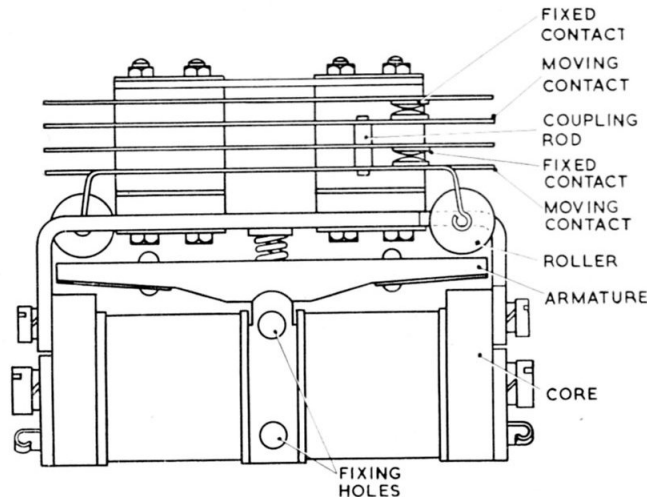

Fig. 1. Relay, Type FDN/A/380
2. This relay (*fig. 1*) incorporates two separate windings on a common core, arranged to attract one end or the other of an armature which rocks on a fulcrum at the centre of the core.
3. Two sets of normally-open leaf-spring contacts are fitted, one set at each side, one only being visible in fig. 1. Energizing of the coil on one side will attract the armature towards the core on that side, causing the